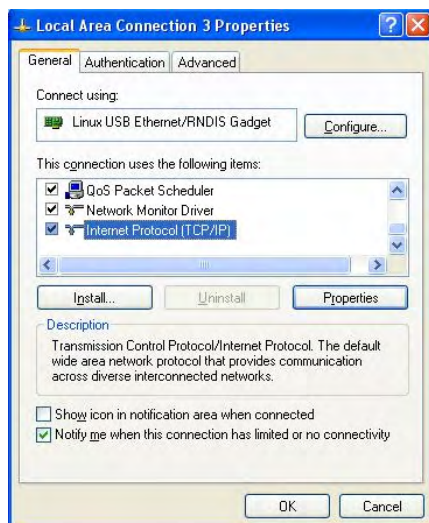

FIG. 36 Local Area Connection 3 Properties
- In the Local Area Connection 3 Properties window (FIG. 36) under the **General** tab, select *Internet Protocol (TCP/IP)* and click on **Properties**.